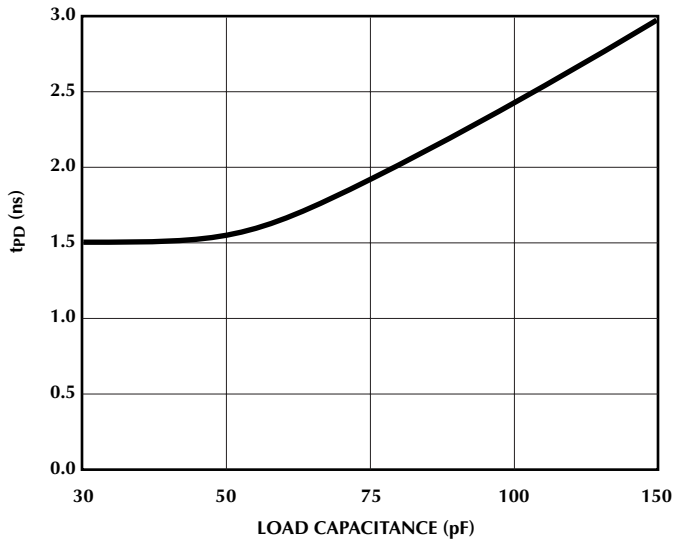

Figure 3. Propagation Delay ( $t_{PLH}$ ,  $t_{PHL}$ ) Versus Load Capacitance, One Output Switching At 66MHz.
**Note 2:** One line switching, see Figure 3,  $t_{PLH}$ ,  $t_{PHL}$  versus  $C_L$ .